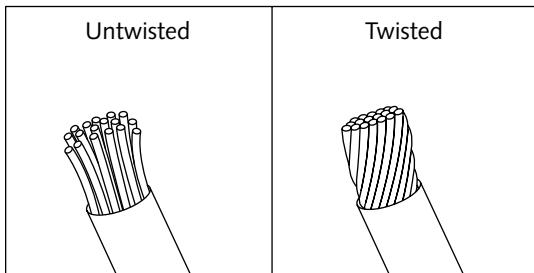

FIGURE 2-5: Stranded wire, untwisted (bad) and twisted (good).
3. Take the wire that you want to add to a connection, and make sure that its strands are twisted (Figure 2-5). This prevents loose strands from causing short circuits.